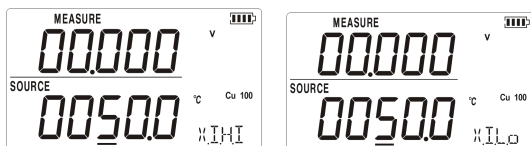

Figure 6.2-2
4. In case that the calibrator displays $\times.I.H.I$ or $\times.I.L.O$, the exciting current of calibrator has exceeded the limit. The screen will display as shown in Figure 6.2-2.